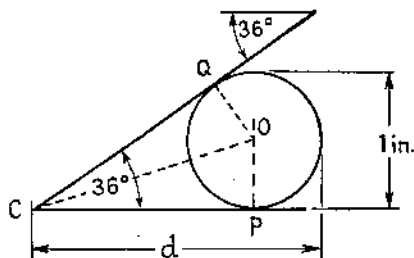

Fig. 30
(4) A 1-in. test plug is placed in the angular groove shown in fig. 30. Calculate the distance  $d$ .